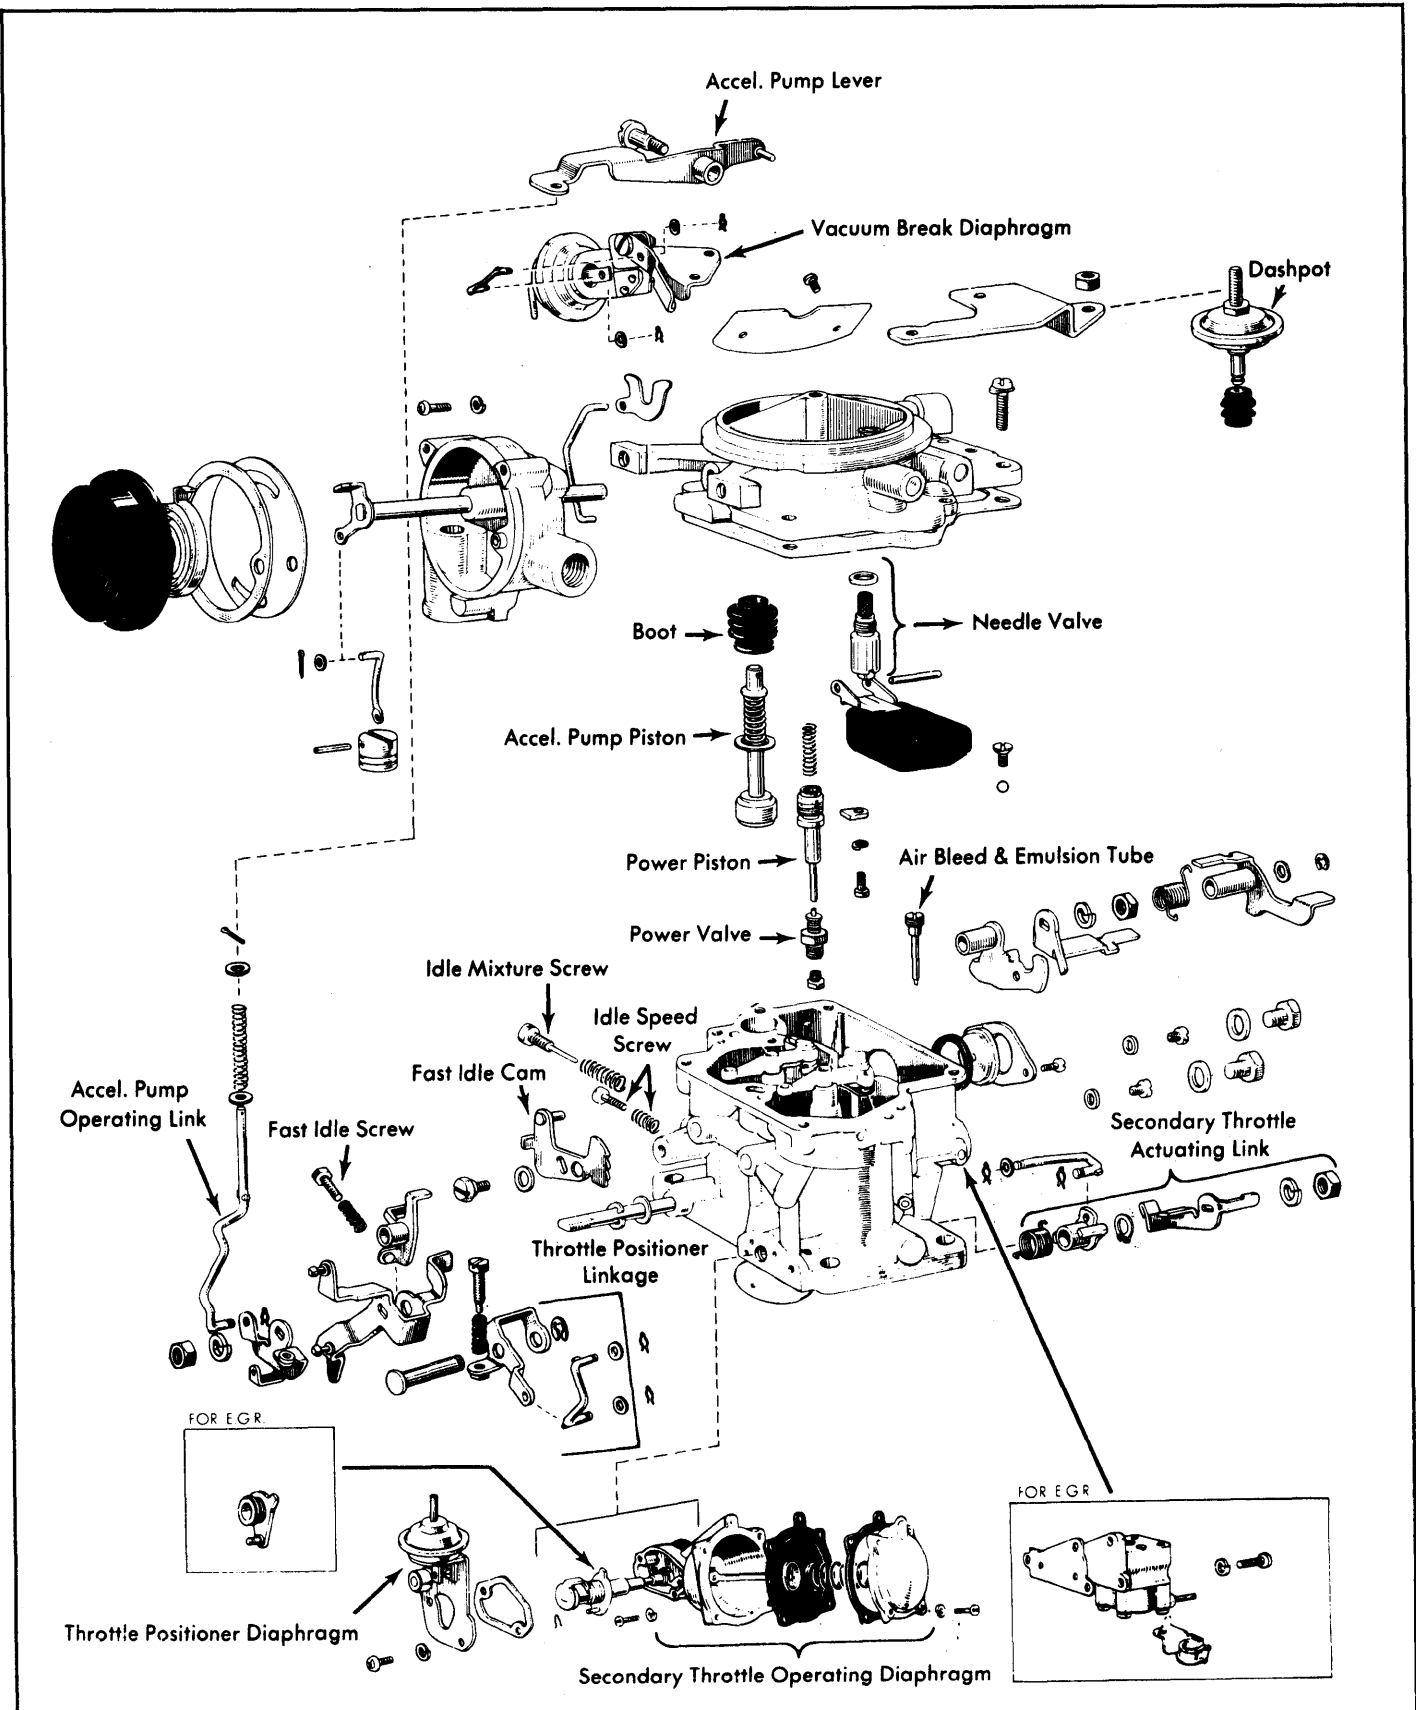

Fig. 10: Exploded View of Aisan 2-Barrel Carburetor (1974 Toyota 4M Engine)
- 1) To disassemble air horn, remove choke assembly and fuel inlet fitting. Remove accelerator pump lever and link. See Figs. 10, 11 and 12. Remove fast idle cam connecting rod, choke opener, and fitting clamp.